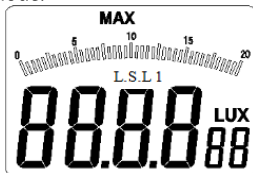

Fig. 3-1-3
1. Give a short press on the key "MAX/MIN/LS" and the word "MAX" appears on the upper front of the LCD screen (as shown in Fig.3-1-3). At this moment, the meter enters the max/min value query mode;